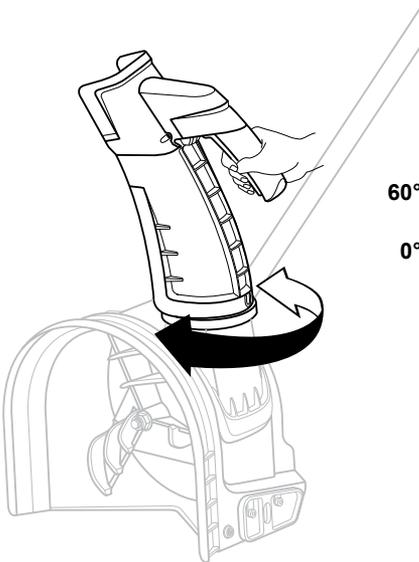

Fig. 8A
2. Rotate the handle to the left or right to change the snow discharge direction. (Fig. 8A)